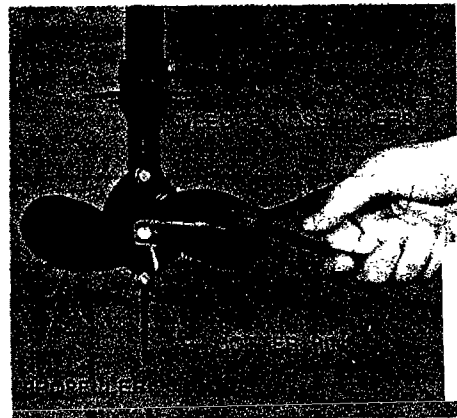

Figure 10
- b. To replace shear pin, shut off motor, remove cotter pin with needle nose pliers and slip off propeller. (See Figure 10 & 11).